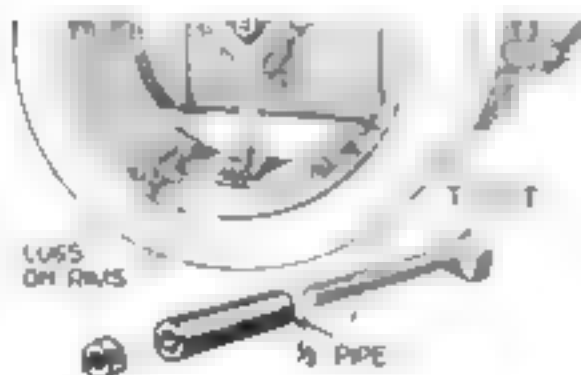

Fig. 2. T-bolts, nuts and short sections of pipe make it easy to take along an extra spare tire.
**W**HEN the spare tire rack is built to hold only one extra tire and rim, the usual way to carry two spares on long trips is to strap the extra spare to the one that is bolted to the tire carrier. If, however, your car is fitted with rims made with lugs attached, Fig. 2 shows how to carry a spare neatly without straps. T-head bolts are used and sections of half-inch pipe are cut the right length to be spacers between the two tires. They should be long enough so that the rubber does not touch. Use at least three bolts on small tires and four or five on the larger sizes.
**R**OWLAND L. Hill, of Saginaw Mich., won the \$10 prize this month for his suggestion of a practical way to carry two spares (Fig. 2). Each month *POPULAR SCIENCE MONTHLY* awards \$10 in addition to regular space rates to the reader sending in the best idea for motorists. Other contributions that are published will be paid for at usual space rates.
He made a rapid sketch on a piece of paper, like Fig. 2.
If a mechanic guesses at the angles C and D and the clearance E, Fig. 1, he is practically certain to deviate from the standard form and may even approach the shape shown in Fig. 2.